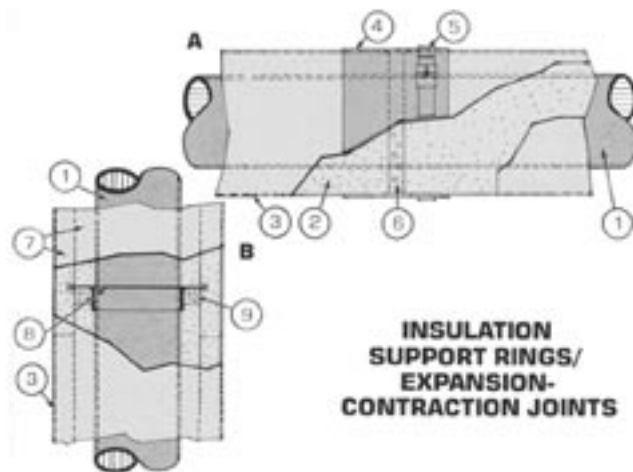

Figure 1. Plate #9 From Midwest Insulation Contractor's Association.
Figure 1 is Plate #9 from the Midwest Insulation Contractor's Association (MICA) *National Commercial & Industrial Insulation Standards* manual (1) showing the correct way to install an expansion/contraction joint at pipe support rings by using a compressible form of insulation in that joint. Figure A, Segment 2 refers to the single-layer pipe insulation. Segment 6 refers to the flexible fibrous insulation in the expansion/contraction joint. Likewise, for the use of a support ring shown in Figure B, Segment 8 is the steel support ring, and Segment 9 is the flexible fibrous insulation used as filler in that otherwise void space.